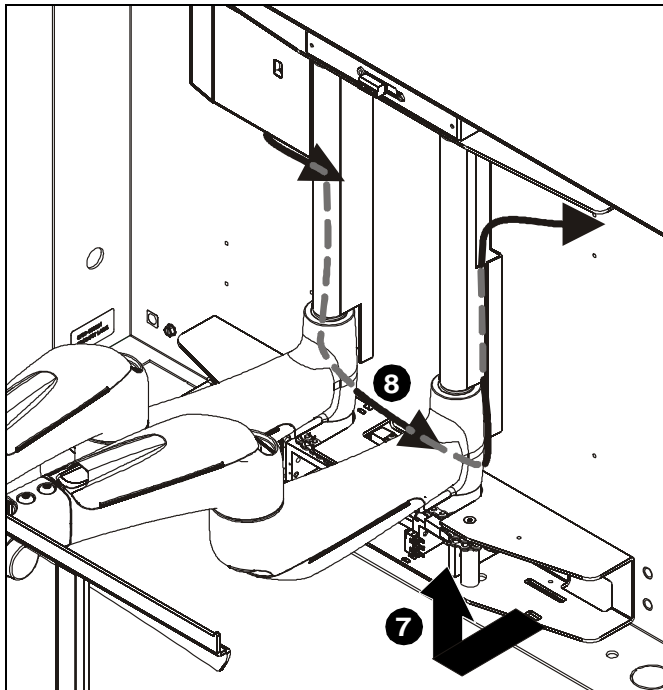

Figure 18
7. Carefully lift up and out slightly on bottom of PXR. (See Figure 18)
8. Route power cord and cables through cable management areas as noted. (See Figure 18)